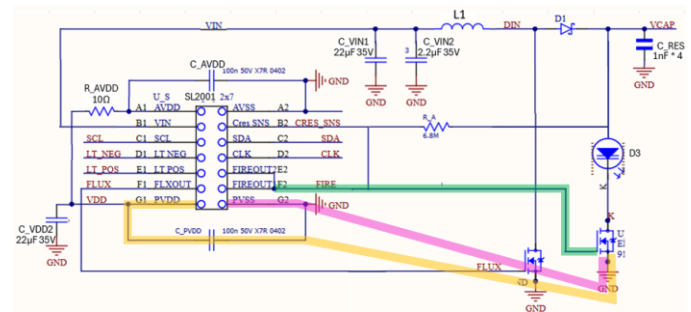

Figure 3: Schematic path for FireOUT driving loop
2. FireOUT driving loop: The next most important layout consideration in order to achieve a high laser light peak power with a short pulse width is to reduce the parasitic impedance for the gate driving of the Fire GaN FET. Figure 3 highlights the paths for this loop in the schematic.
For FireOUT driving, the FireFET turn-on loop is shown in green and orange in Figure 3 and the FireFET turn-off loop is shown in green and pink in Figure 3. The current in these